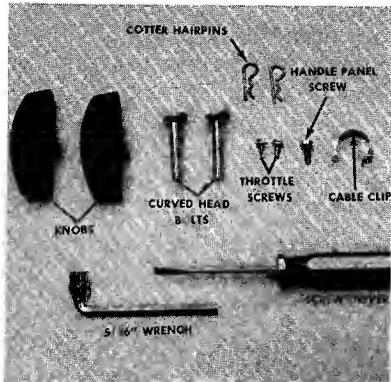

FIGURE 1.
1. Remove the loose hardware from the assembly pack. You will need a screwdriver and a $5/16''$ wrench, either a socket as shown in figure 1 or an open end wrench.